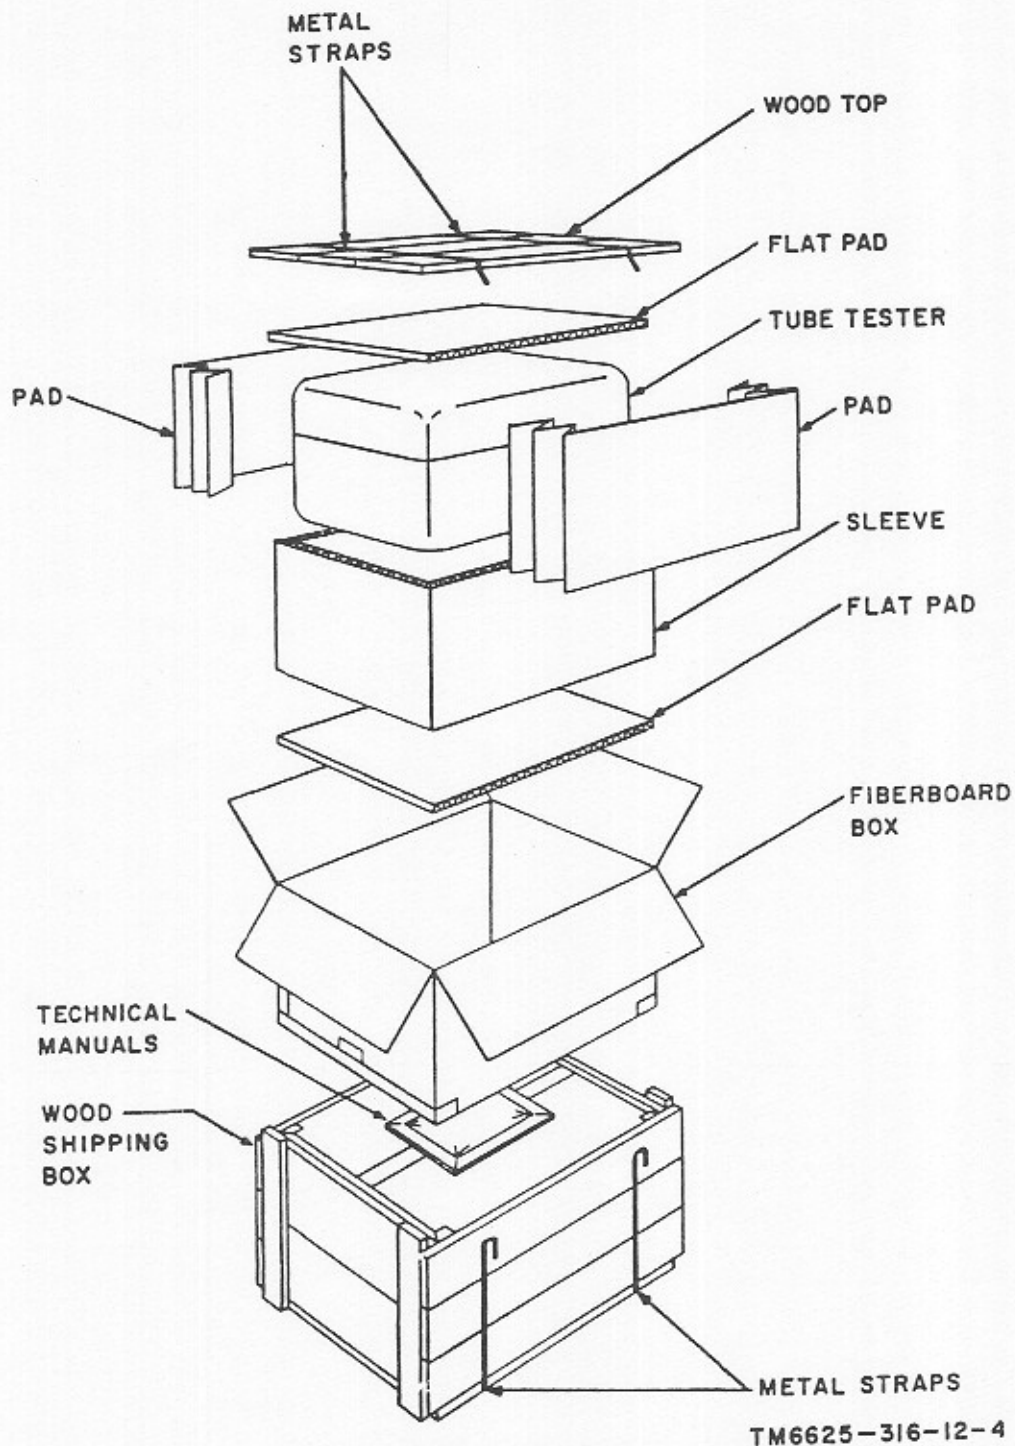

Figure 2. Typical packaging.
a. Packaging Data. When packed for shipment, the tube tester is cushioned on all surfaces and placed within a water-resistant fiberboard box. The fiberboard box is sealed with water-resistant tape and placed within a wooden shipping box. Spare tubes, lamps, and fuses are placed in their designated positions within the tube tester (figs. 1 and 8). The technical manuals are packed within a close-fitting bag fabricated of waterproof wrapping paper. The bag is securely sealed with waterproof pressure-sensitive tape. The wooden shipping box is strapped only for intertheater shipment. A typical wooden shipping box and its contents are shown in figure 2.
- (1) The inside dimensions of a wooden shipping box that contains a tube tester is approximately $19\frac{1}{4}$ by $18\frac{1}{4}$ by $10\frac{5}{8}$ inches.
- (2) The outside volume of the tube tester packed in a wooden shipping box is 2.16 cubic feet, and weighs 60 pounds.